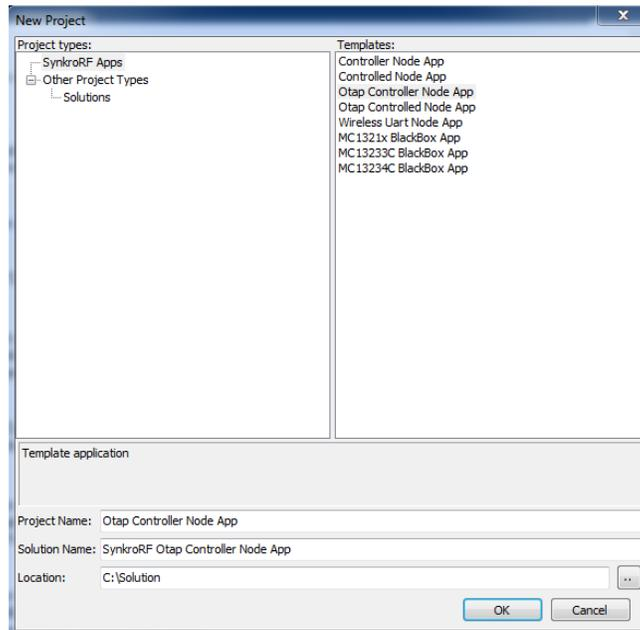

Figure 5-2. OTAP Controller Node application template
2. Select the SynkroRF Apps from the left side of the window, and OTAP controller template from the right side of the window, as shown in Figure 5-2.